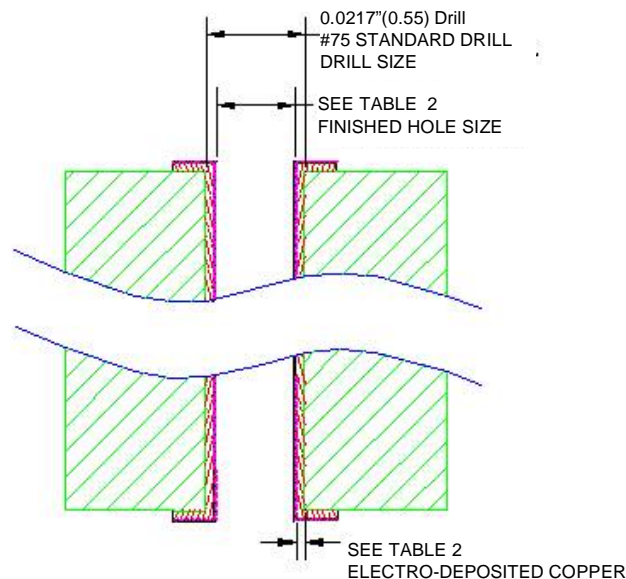
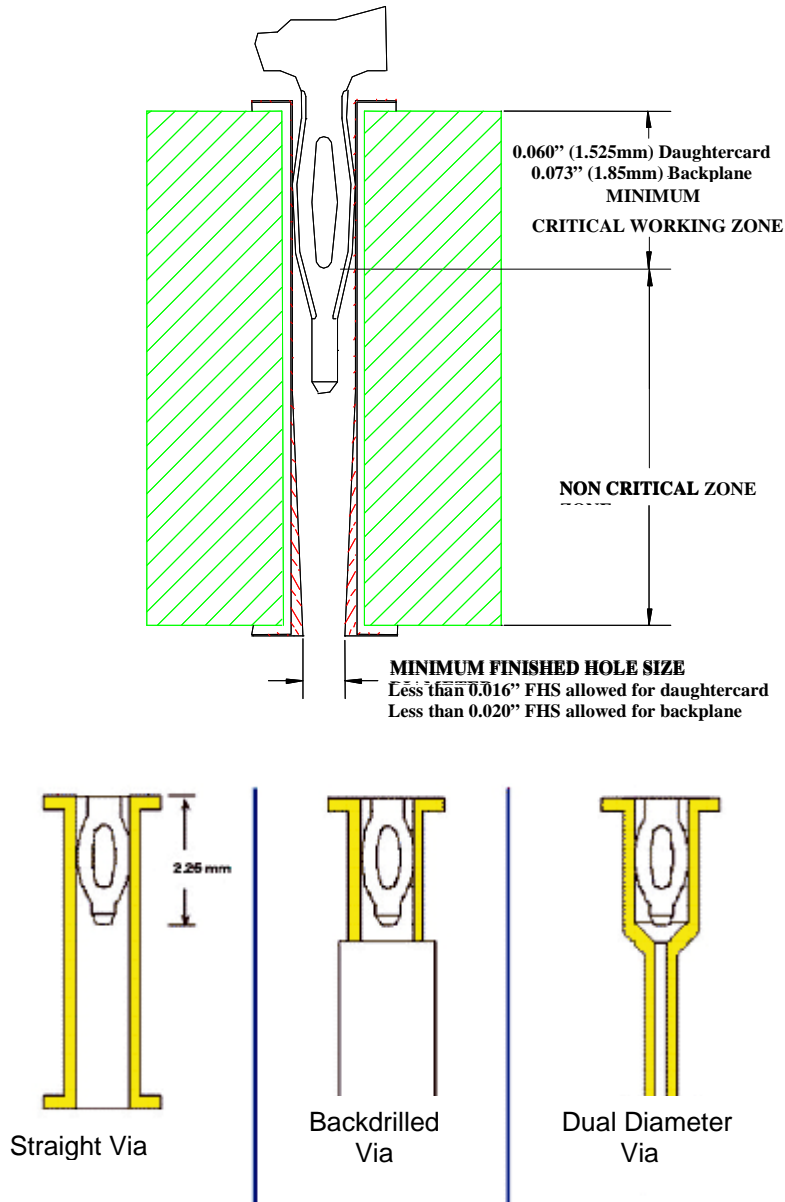

Figure 7. VIPER Drill and Finished Hole Size for Daughtercards
Figure 9. VIPER Compliant Pin Critical Zone and Backdrilling
5.5.1 The following describes recommended anti-pad design for VIPER. Variations to this design based on stack-up design and performance requirements are allowed. They should be characterized using 3D modeling techniques (e.g. HFSS or CST Microwave Studio). Recommended Differential anti-pad structures, such that a single anti-pad surrounds both signal pins, are shown in Figures 7 and 8 below. (This structure is patented by Amphenol). Note that the geometry leaves 10 mils (0.25mm) from edge of anti-pad to edge of ground hole to improve producibility. Single-Ended anti-pad structures can be found in Figures 9 and 10.